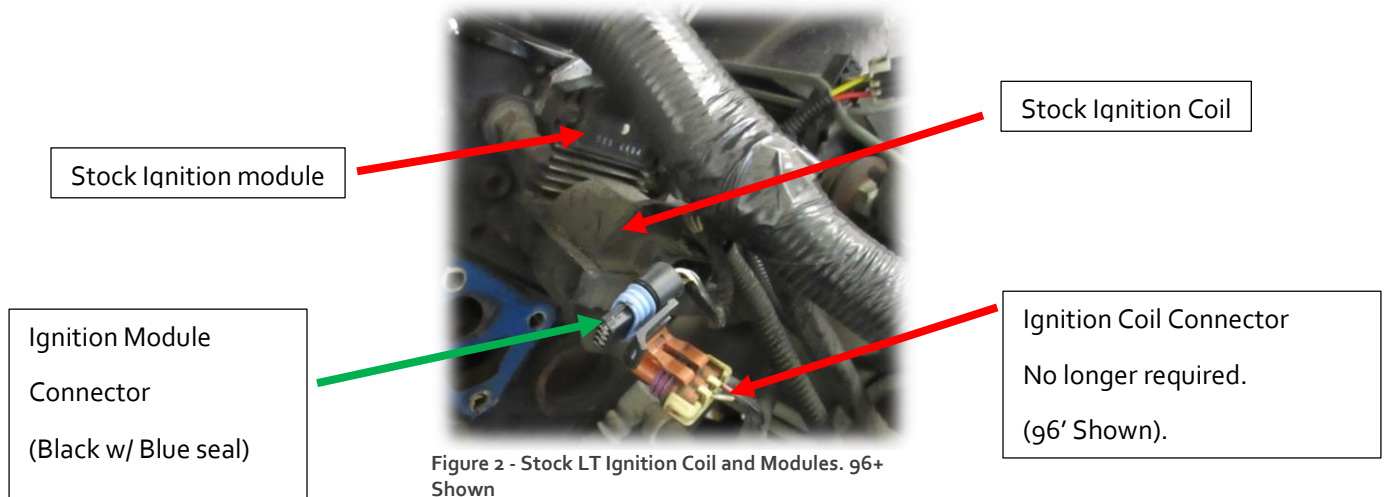

Figure 2 - Stock LT Ignition Coil and Modules. 96+ Shown
3. Locate and remove the stock LT1 ignition coil and ignition module. (Fig 2)